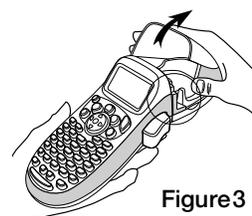

Figure3
- 1 Press and release the label cassette cover to open the label compartment. See Figure 3.